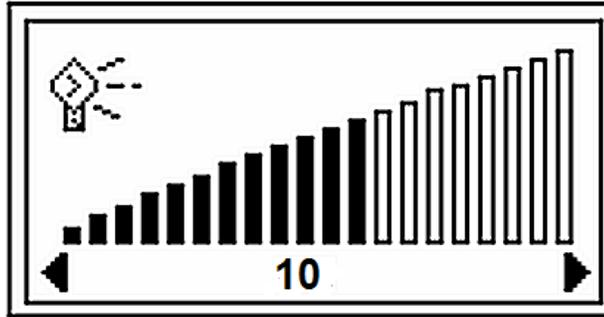

Figure 2-8 Backlight Setup Configuration Screen
3. Press **Enter** and the configuration screen appears (Figure 2-8).